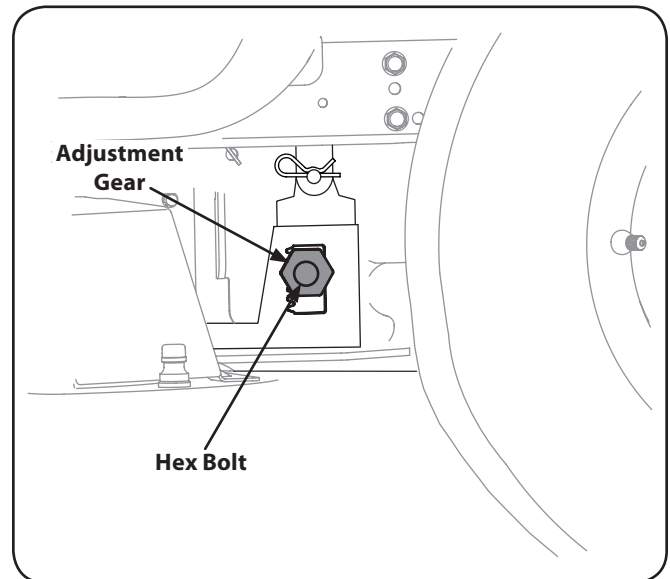

Figure 6-6
3. Loosen, but do NOT remove, the hex bolt on the front left deck hanger link. See Figure 6-6.
4. Using a wrench, raise or lower the left side of the deck by turning the adjustment gears. See Figure 6-6.
4. Loosen, but do NOT remove, the hex bolt on the left and right rear deck hanger brackets. See Figure 6-6.
5. Using a wrench, raise or lower the left and right side of the deck by turning the adjustment gears. See Figure 6-6.